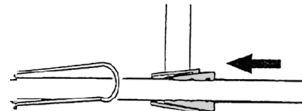

Fig. 8
- a. Slide the tapered plates on the crossarms into the tapered sockets on the cradle (Fig. 8).